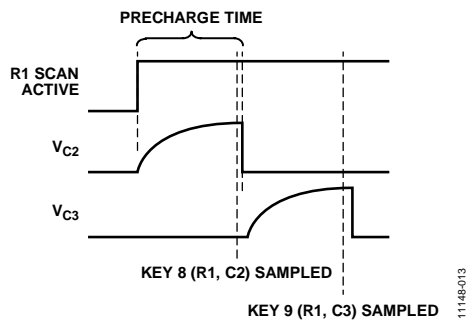

Figure 13. Precharge Time
During a scan sequence, a row scans through the columns sequentially. Each row/column combination is tested at a rate that is defined by the KEY_POLL_TIME bits (Register 0x39, Bits[1:0]). Within each of these scan times, each column is scanned for a time defined by the PRECHARGE_TIME bit (Register 0x39, Bit 3). As shown in Figure 13, the resistance capacitance (RC) time constant, which is defined by the series resistance (from pull-up/pull-down, for example) and parallel capacitance that is seen on the individual columns, affects the sampling of a key press event.